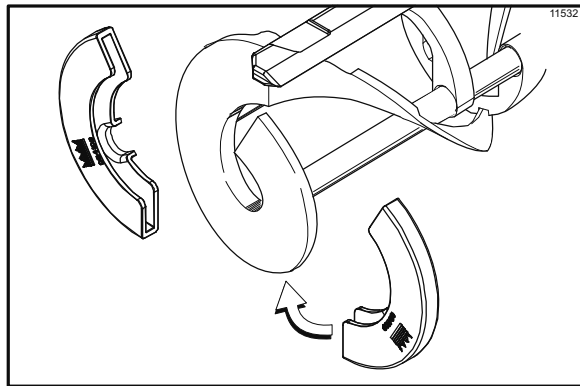

Figure 6-10
10. If the beater shoes are in good condition, install the beater shoes. (See Figure 6-10.)